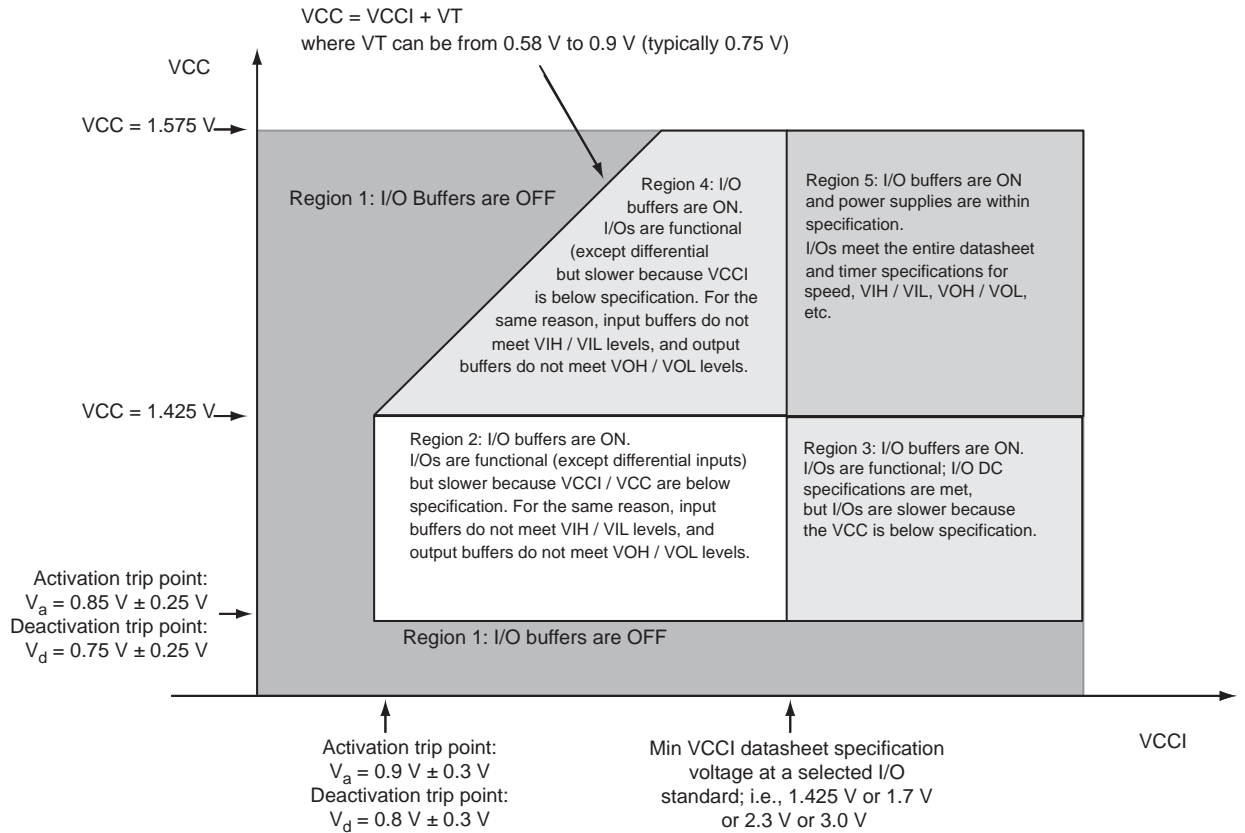
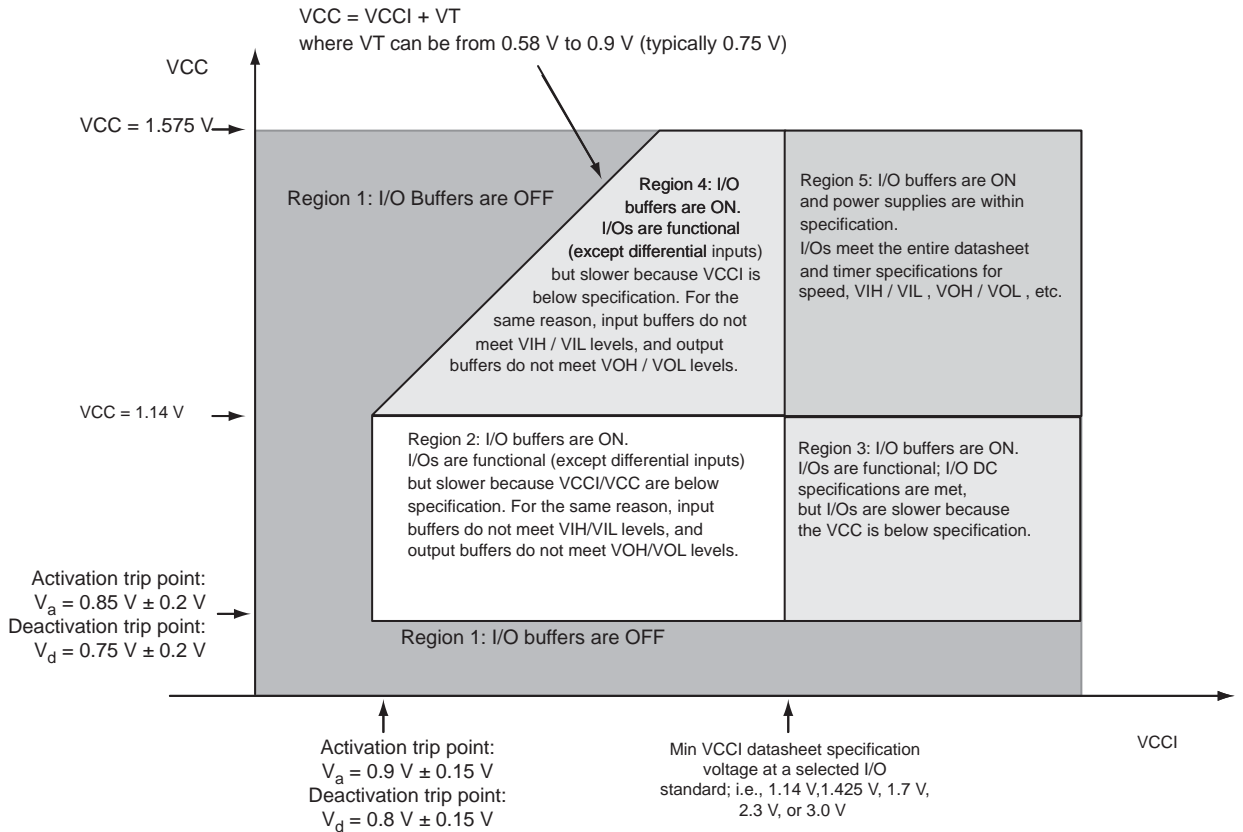

Figure 2-2 • Devices Operating at 1.5 V Core Voltage – I/O State as a Function of VCCI and VCC Voltage Levels
Figure 2-3 • Devices Operating at 1.2 V Core Voltage – I/O State as a Function of VCCI and VCC Voltage Levels
Sophisticated power-up management circuitry is designed into every ProASIC[®]3 device. These circuits ensure easy transition from the powered-off state to the powered-up state of the device. The many different supplies can power up in any sequence with minimized current spikes or surges. In addition, the I/O will be in a known state through the power-up sequence. The basic principle is shown in Figure 2-2 on page 2-5 and Figure 2-3 on page 2-6.
1. VCC and VCCI are above the minimum specified trip points (Figure 2-2 on page 2-5 and Figure 2-3 on page 2-6).
Microsemi recommends using monotonic power supplies or voltage regulators to ensure proper power-up behavior. Power ramp-up should be monotonic, at least until VCC and VCCPLX exceed brownout activation levels. The VCC activation level is specified as 1.1 V worst-case (see Figure 2-2 and Figure 2-3 on page 2-6 for more details).